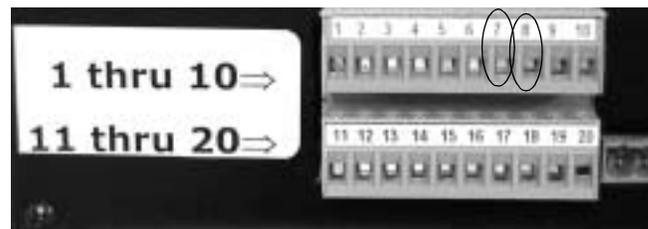

Figure 26. Low Voltage Sensing
1. Connect positive lead (5 - 30 volts AC/DC) to terminal #7 and ground of switching device to terminal #8 (see Figure 26). Unit extends when voltage is sensed, retracts when voltage ceases.